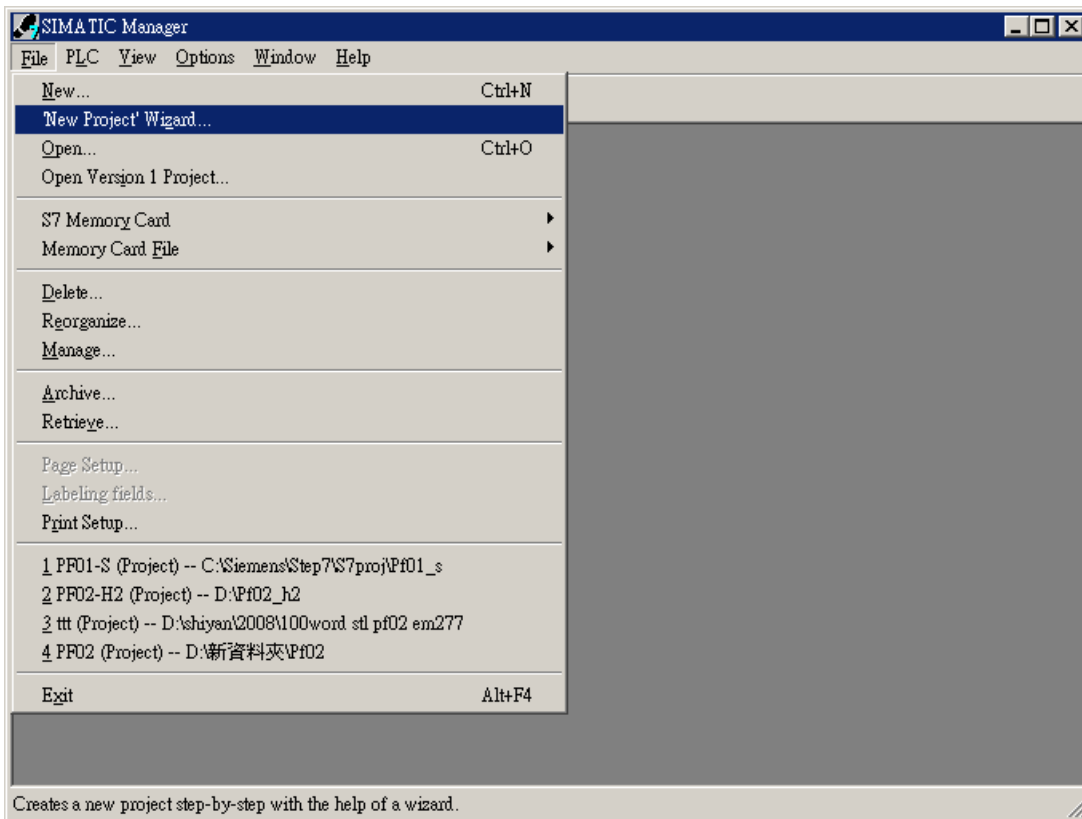

Figure 7-3
2. Select "File" => "New Project Wizard". See Figure 7-3.